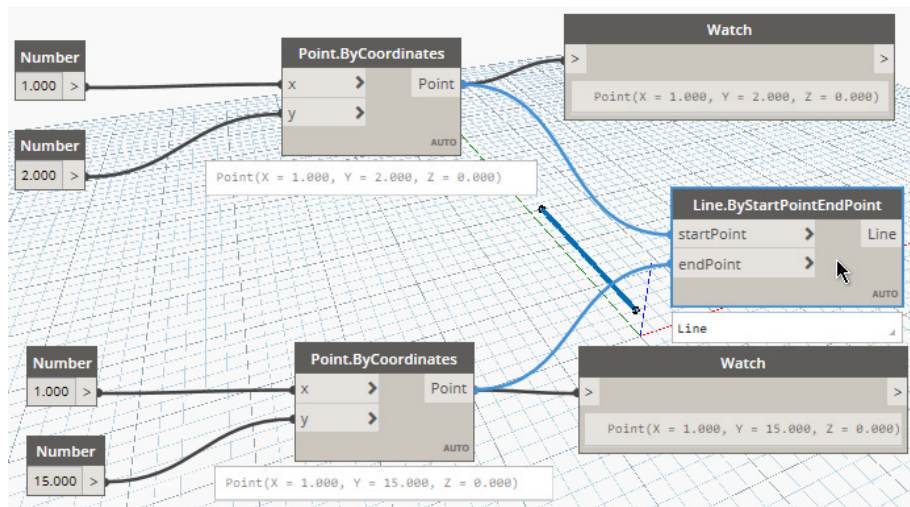

Figure 19
16. Wire these to the **Line.ByStartPointEndPoint** node to create a line (see Figure 19).